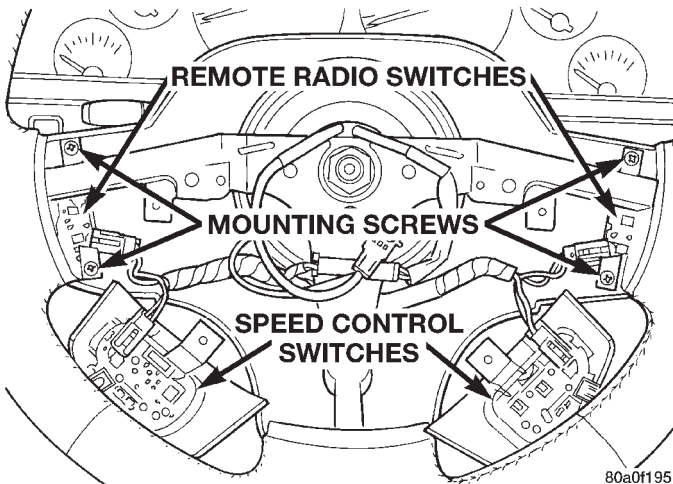

Fig. 7 Remote Radio Switches Remove/Install
(5) Remove the two screws securing each of the remote radio switches to the steering wheel, unplug the wiring connector from the switch, and remove the switch (Fig. 7).